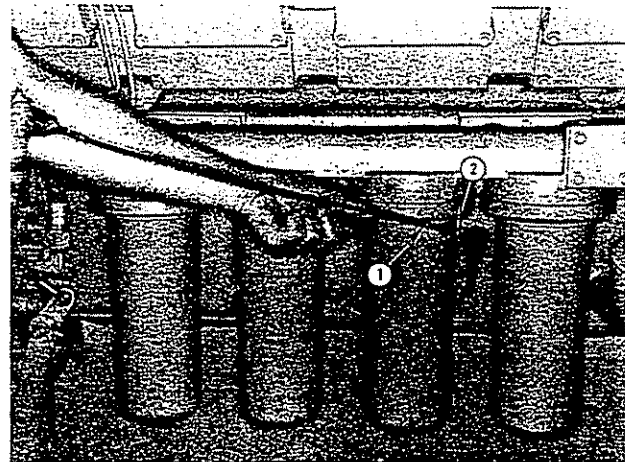

Fig. 2-1, (K21901). Checking engine oil level
1. Check the oil level with the dipstick oil gauge located on the engine. Fig. 2-1. For accurate readings, the oil level should not be checked for approximately 15 minutes after the engine is shut-down. Keep the dipstick with the oil pan with which it was originally shipped. Keep the oil level as near the “H” (high) mark as possible.